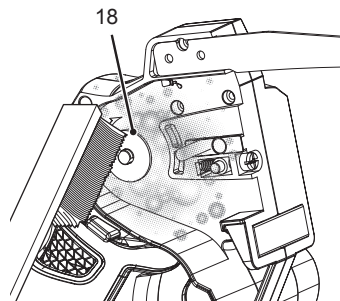

Fig. 14
4. Clean the drive sprocket (18) area with a brush (Fig. 14).